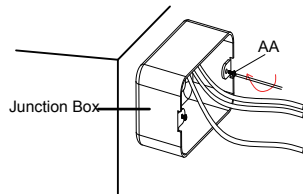

Figure 2
- Install the two screws (AA) into the junction box. (Figure 2)